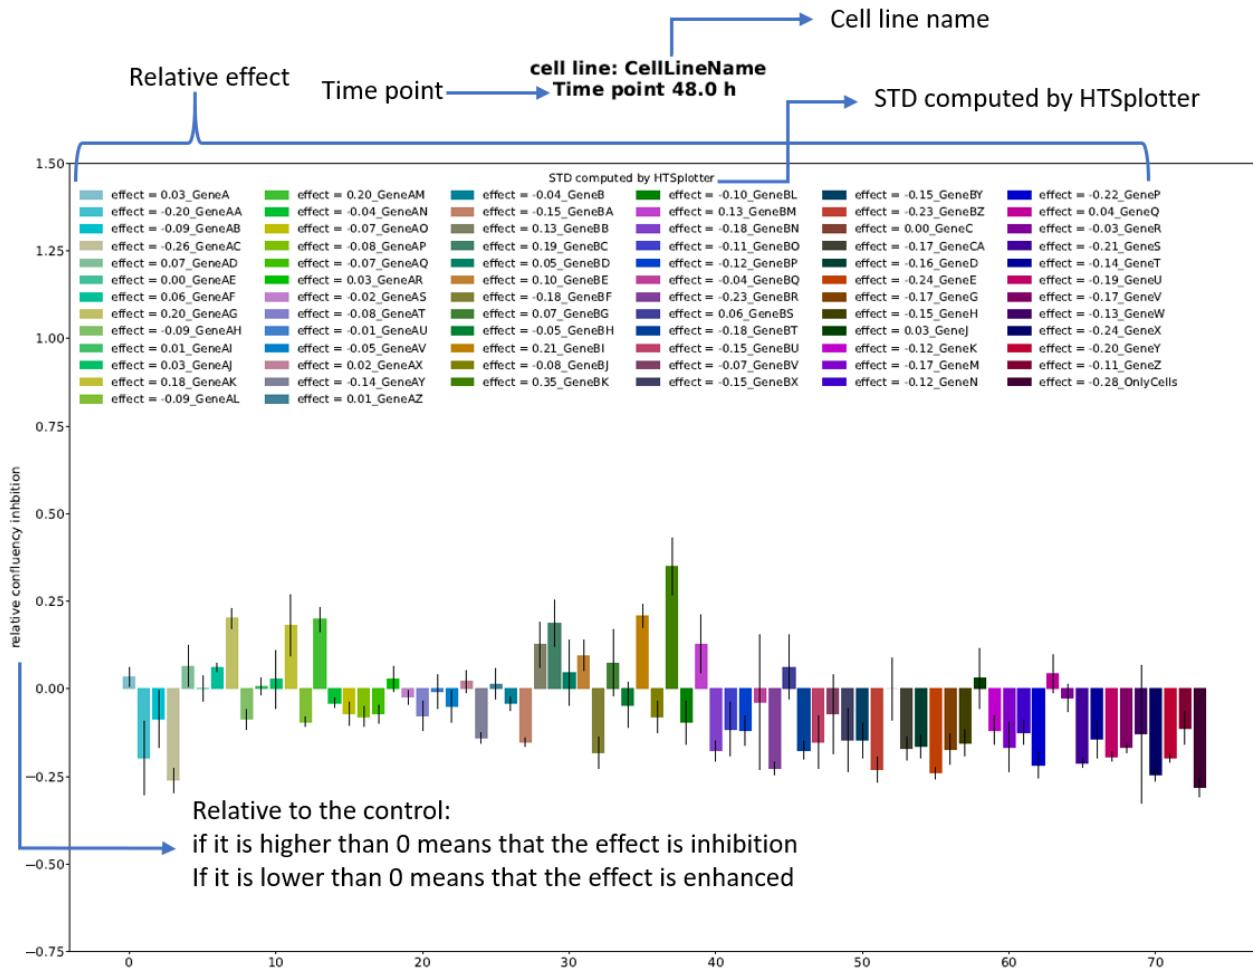
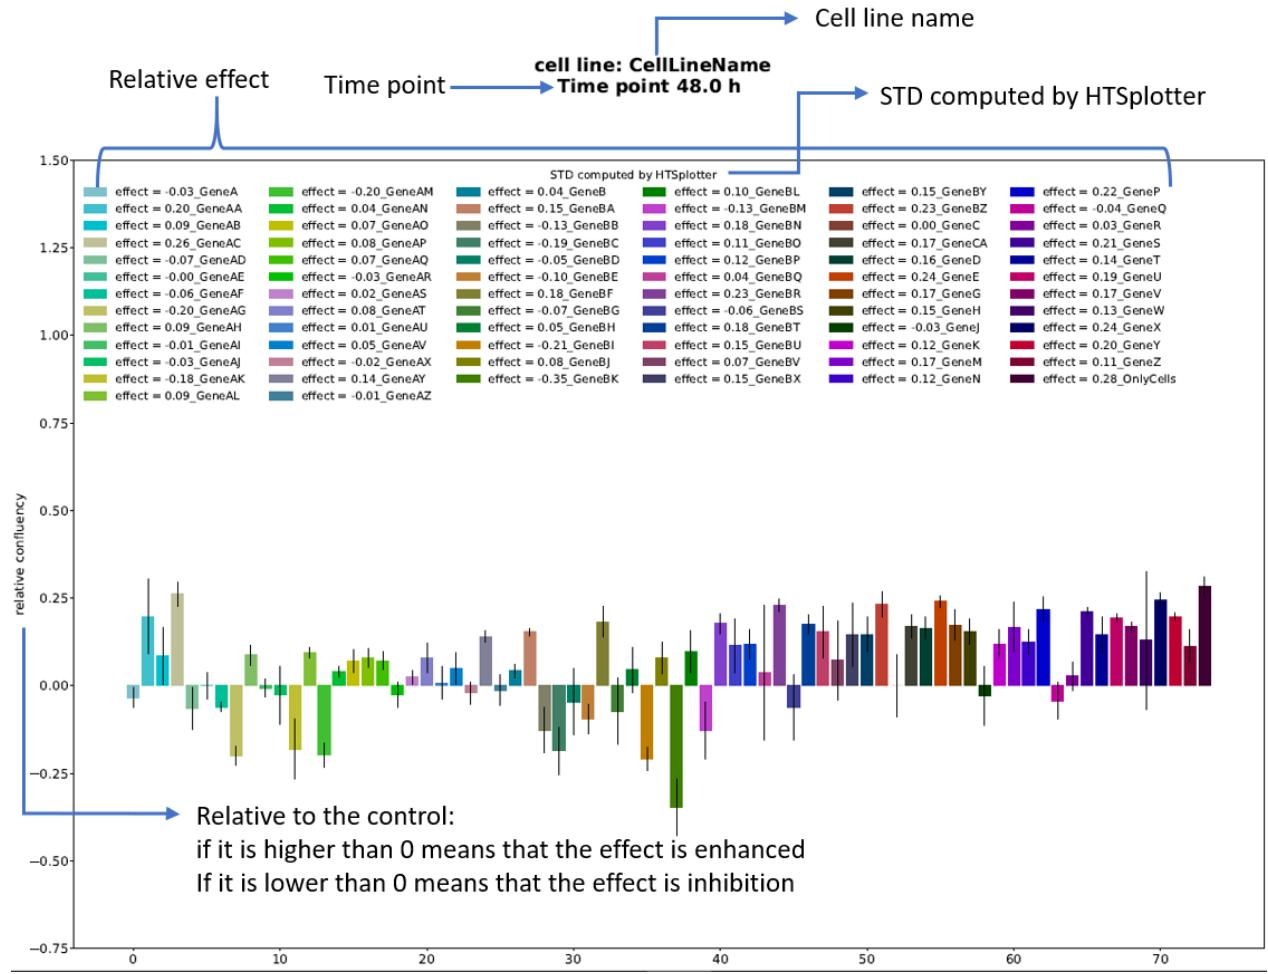

Figure 35: Inhibition effect of all genetics perturbagens plotted. On the legend, the inhibition effect relative to the control is shown.
Figure 36: Effect of all genetics perturbagens plotted. On the legend, the effect relative to the control is shown.
- Bar plot is with all perturbagens, shown as inhibition (Figure 35) and as enhanced (Figure 36)